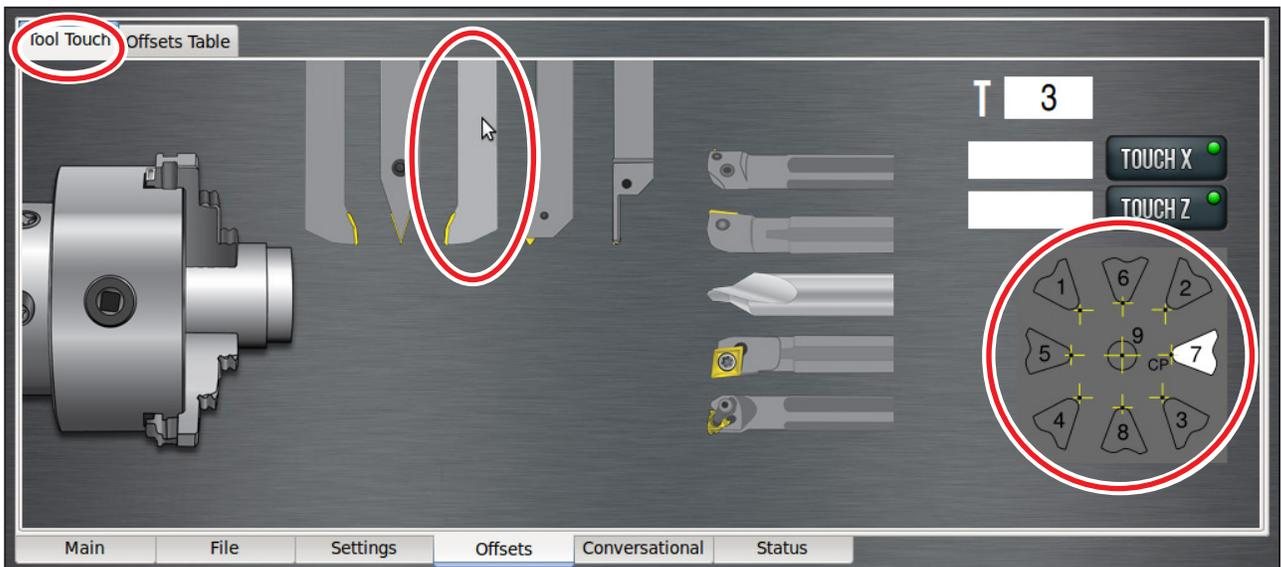

Figure 5.15
The *Tool Touch* tab screen allows the operator to graphically select and touch off a tool to set the geometry offsets. The tool images act as buttons, and they highlight as they are moused over (see **Figure 5.15**).
**NOTE:** Tip orientation has been automatically set to Z, as shown in **Figure 5.15**. This dialog is intended to make setting the tool geometry offsets (or touching off the tool) easy and intuitive.